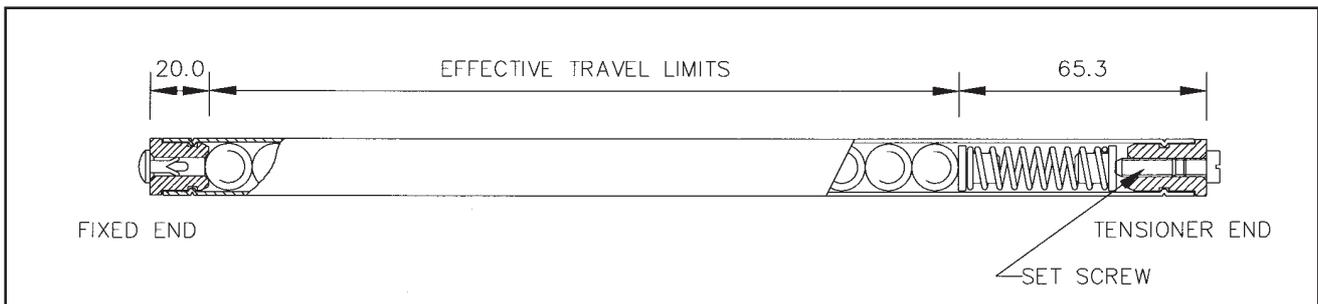

Figure 5.1 - Spherosyn Scale
- (A) Erroneous readings will occur if the Reader Head is allowed to travel beyond the Effective Travel Limits. (Refer to Figure 5.1)
- (B) The pre-load on the balls are factory set via the set screw at the tensioner end. Do not tamper with of adjust the set screw as this will alter the calibration and accuracy specification of the scale. (Refer to Figure 5.1)
- (C) When mounting scales in the vertical plane the tensioner end should be positioned at the top.